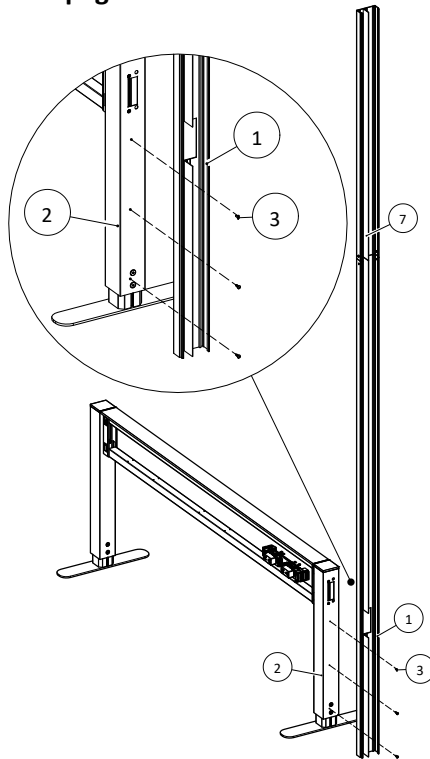

Figure 1
STEP 2: Disengage the power pole and align the back spine ceiling feed (1) to the cutout of the end/start post (2) or gallery panel (11). Ensure that the power pole is positioned vertically straight.
STEP 3: For securing the power pole to the post, use three #10 x 5/8" pan head self-drilling screws (3). Drive these screws through the holes in the back spine ceiling feed (1) into the post (2), as shown in Figure 1. If you are attaching the power pole to the gallery panel, use three #10 x 11/16" pan head screws (12) and drive them through the holes in the back spine ceiling feed (1) into the gallery panel (11), as illustrated in Figure 2.